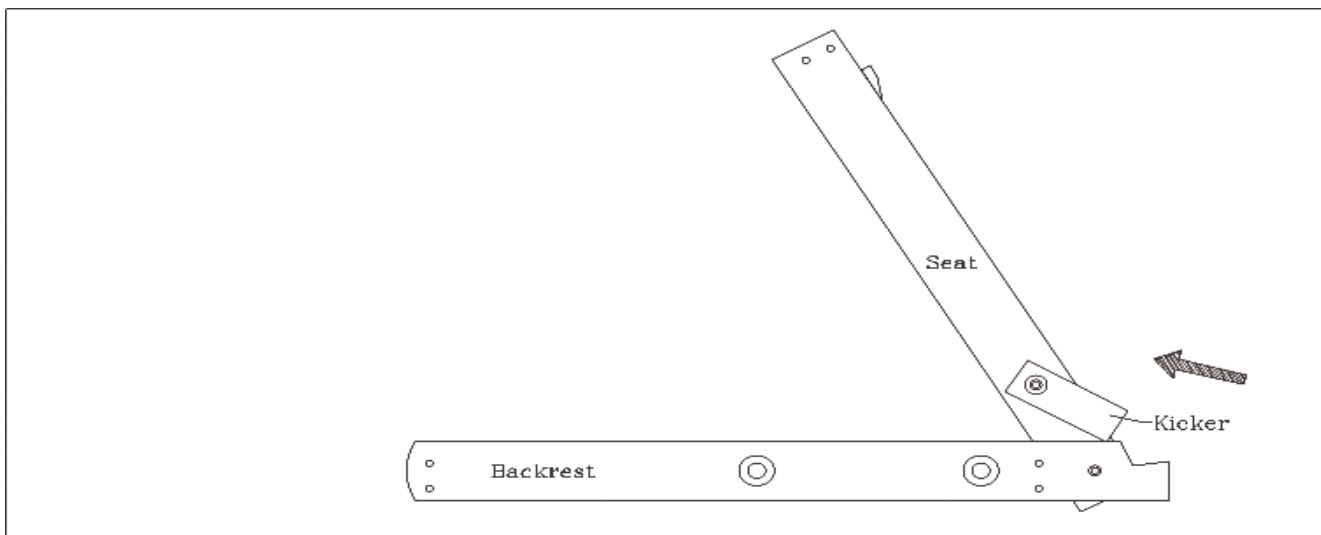

Figure 6
- 9) Turn backrest/seat assembly over so slats are facing upward. With backrest still lying flat on the floor, pick end of seat up until it rests on backrest (Figure 6).